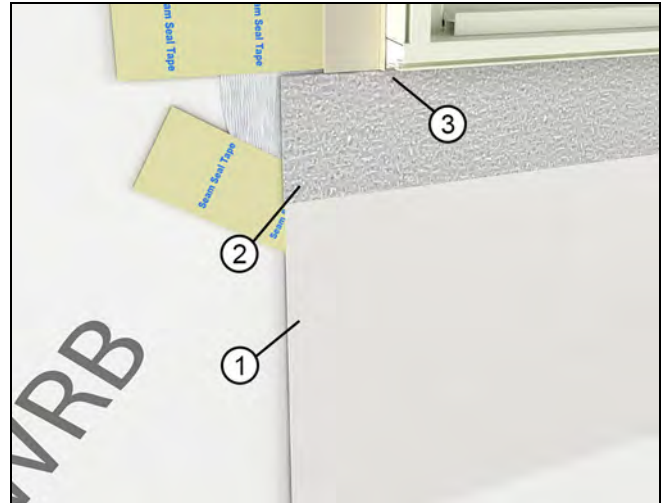

Figure 272
5. **OPTIONAL SKIRT:** Install an optional "skirt" in applications with exposure to wind driven rain/climate. Use flashing material or a 12" (305) strip of WRB and attach to the sill of the window with seam seal tape or flashing tape. See Figure 272.